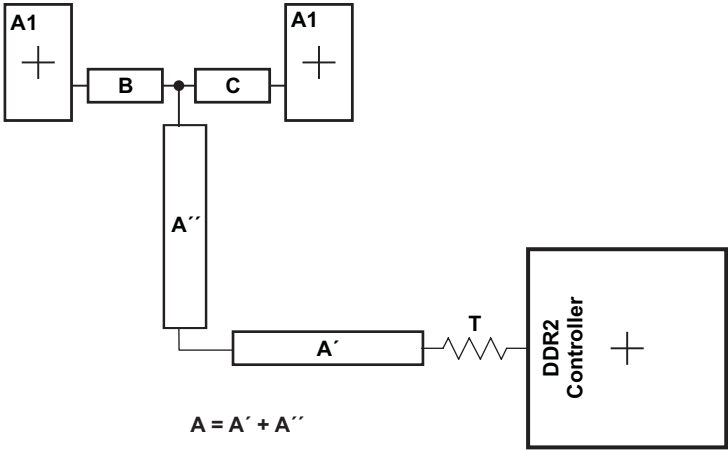

Figure 8-53. CK and ADDR_CTRL Routing and Topology
Figure 8-53 shows the topology of the routing for the CK and ADDR_CTRL net classes. The route is a balanced T as it is intended that the length of segments B and C be equal. In addition, the length of A ($A'+A''$) should be maximized.
- (1) The length of segment $A=A'+A''$ as shown in Figure 8-53.
(2) Center-to-center spacing is allowed to fall to minimum (w) for up to 500 mils of routed length to accommodate BGA escape and routing congestion.
(3) CACLM is the longest Manhattan distance of the CK and ADDR_CTRL net classes.